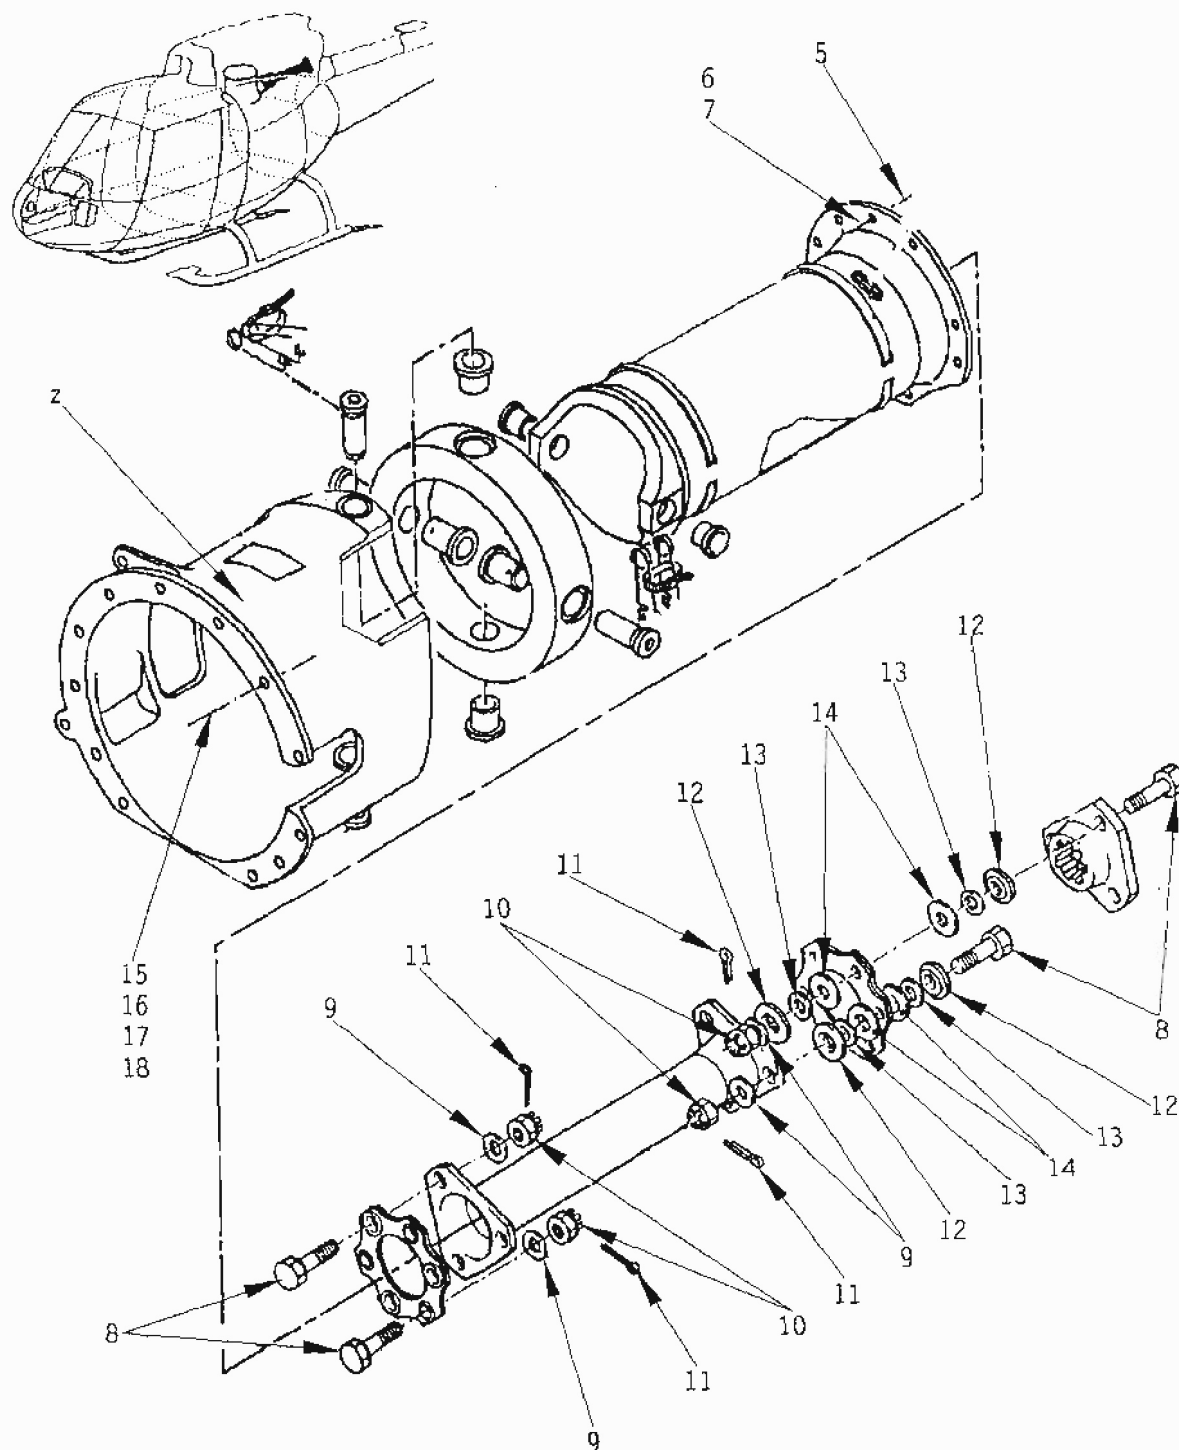

Figure 2
- Remove engine-MGB link as per Work Card 63.00.00.401 (MET) to obtain access to drive pulley (c) and scrap nuts and bolts (Figure 2).
- On hydraulic pump, fit seal (4) to replace the existing seal.
- Install "Poly V" trapezoidal belt (2).
- Install engine-MGB link as per Work Card 63.00.00.401 (MET) with new nuts and bolts (5 to 18) (Figure 2).
- Adjust "Poly V" belt (2) tension: